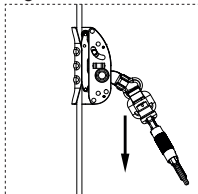

Fig. 6
3.3) Open the runner by pulling on the release button and then pushing the release lever upwards. The runner should then open completely. Fig. 6